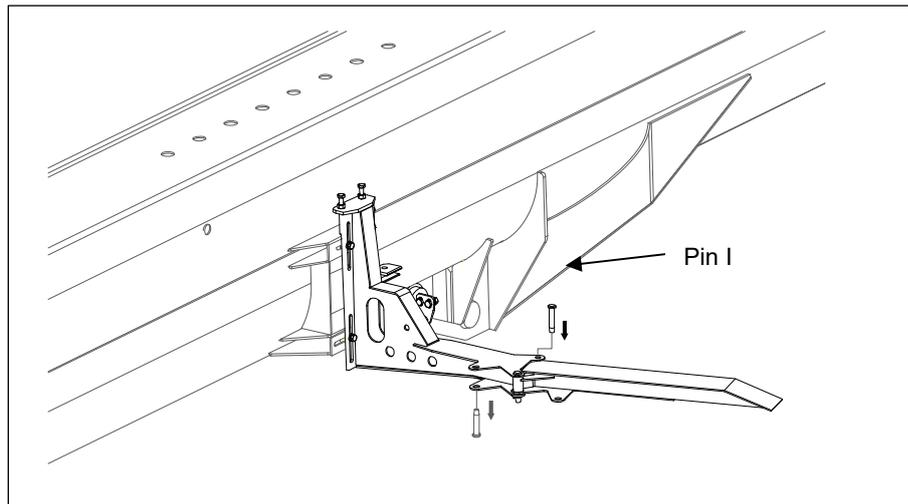

Figure 5-4 Extend the folded bracket
- f) Remove the pin I. Extend the folded bracket and install the removed pin I. Refer to Figure 5-4.